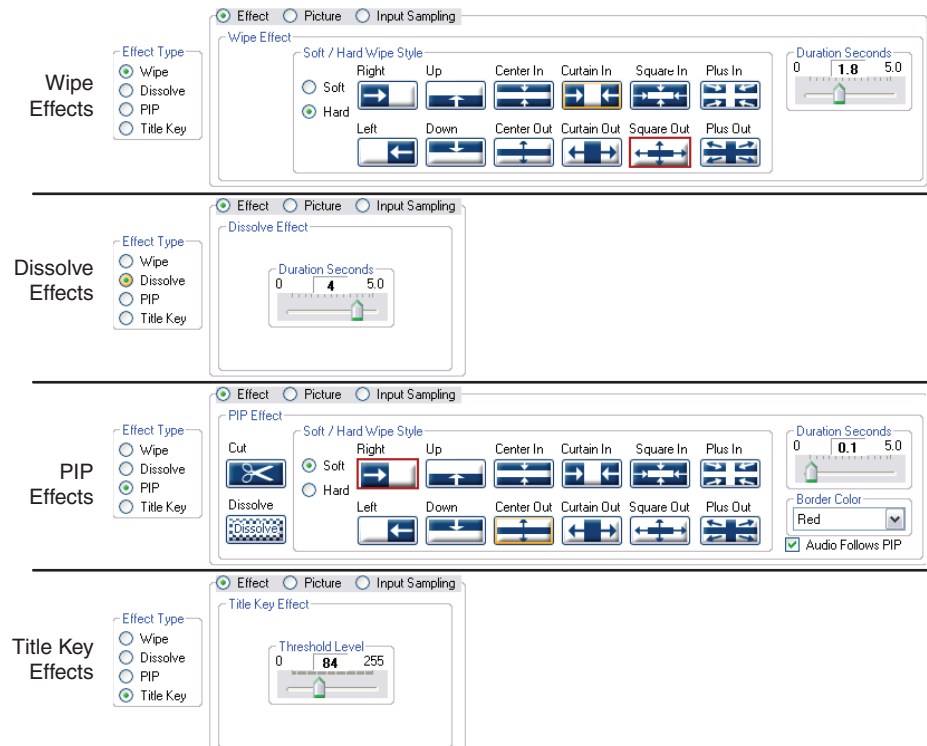

Figure 5-4 — Effects selections
- The Wipe Effect selections work similar to wipe effect selections made through the menus system, and these selections differ depending on the Effect Type radio button selected (figure 5-4).